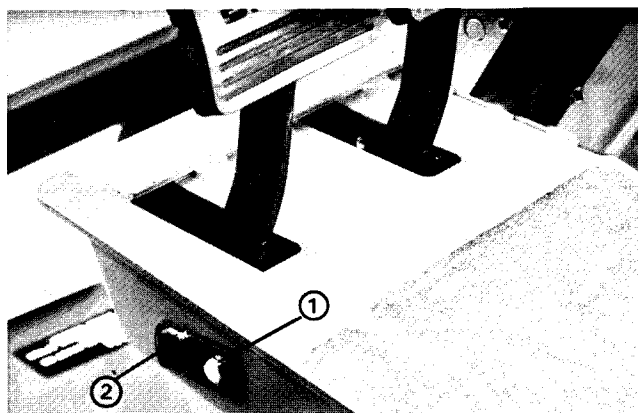

Figure 10
3. Remove the cap screw and lock nut securing the brake pedal pivot pin to the frame (Fig. 10). Pull the pivot pin out so the brake pedals can be removed. Remove the brake pedals.
6. Clean the brake pivot pin to remove dirt and grease. Hold the left brake pedal in position and install the pivot pin through the side of the frame and brake pivot. Hold the right brake pedal in position and push the pin through the brake pivot and opposite side plate. Install the cap screw and lock nut to secure the pivot pin (Fig. 10).